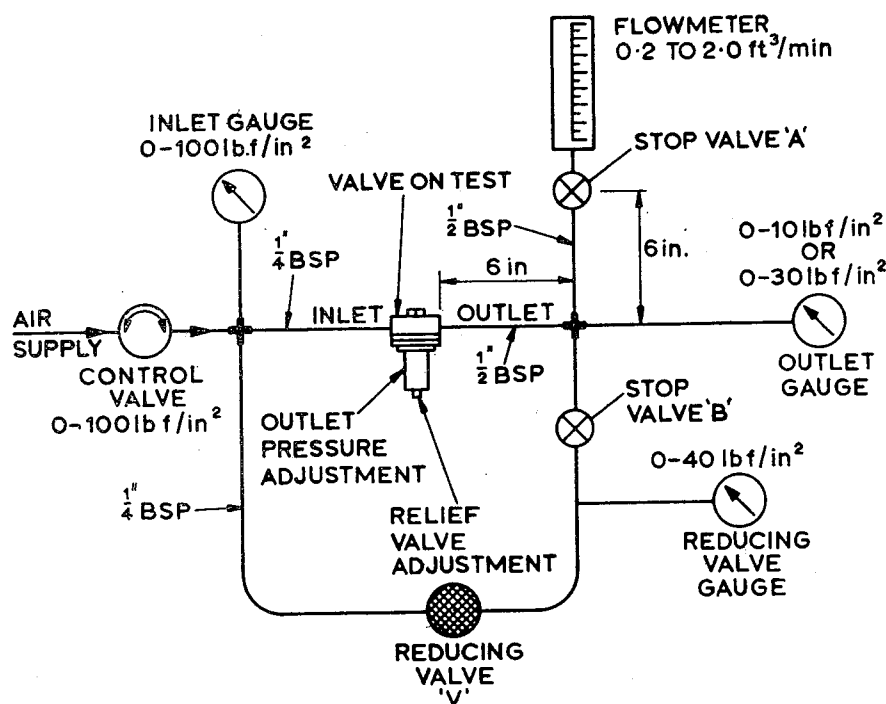

Fig. 3. Test rig
#### Testing PS 29/4 (fig. 3)
8. (1) Connect the valve to the test rig as shown in fig. 3, with the air supply line connected to the inlet port of the valve.
#### Testing PS 29/8, Mk. 2 (fig. 3)
9. (1) Connect the valve to the test rig as shown in fig. 3, with the air supply connected to the inlet port.
#### Testing PS 29/70 (fig. 3)
10. (1) Connect the valve to the test rig as shown in fig. 3, with the air supply connected to the inlet port.